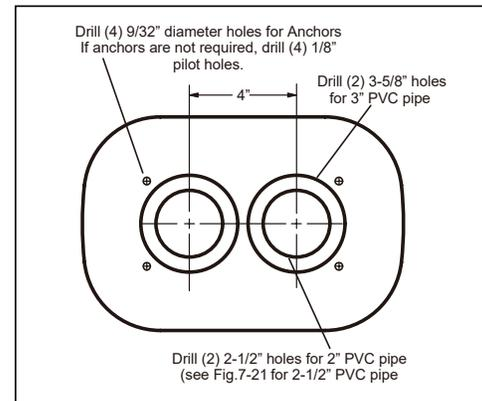

Fig.7-17
4. Using the template as a guide, drill two 3-5/8" holes for 3" PVC pipe or two 2-1/2" holes for 2" PVC and 2-1/2" PVC pipe. For 2-1/2" PVC installations transition to 2" PVC and install into flush-mount as shown in Fig.7-21. Do not vary from the template. All dimensions are critical. There must be 4" center line to center line for either 3" pipe or 2" pipe. See Fig.7-17.